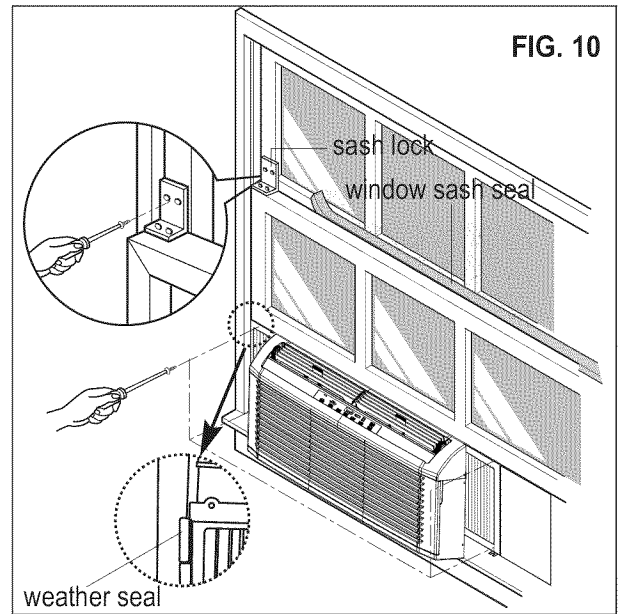

FIG. 10
Expand the filler panels and secure them using 4 screws as shown in FIG.10. When filler panels opens or closes, you may feel a slight resistance. This is normal.
- * Cut the window sash seal to the window width. Stuff the window sash seal between the glass and the window to prevent air and insect from getting into the room, as shown in FIG.10.
- * Trim the weather seal (6"X3/4"X1/12") to a proper length, peel off the protective backing and plug any gaps if needed as shown FIG.10.
- * Install the sash lock bracket to prevent window from being raised which may result in unit falling.as shown in FIG.10.